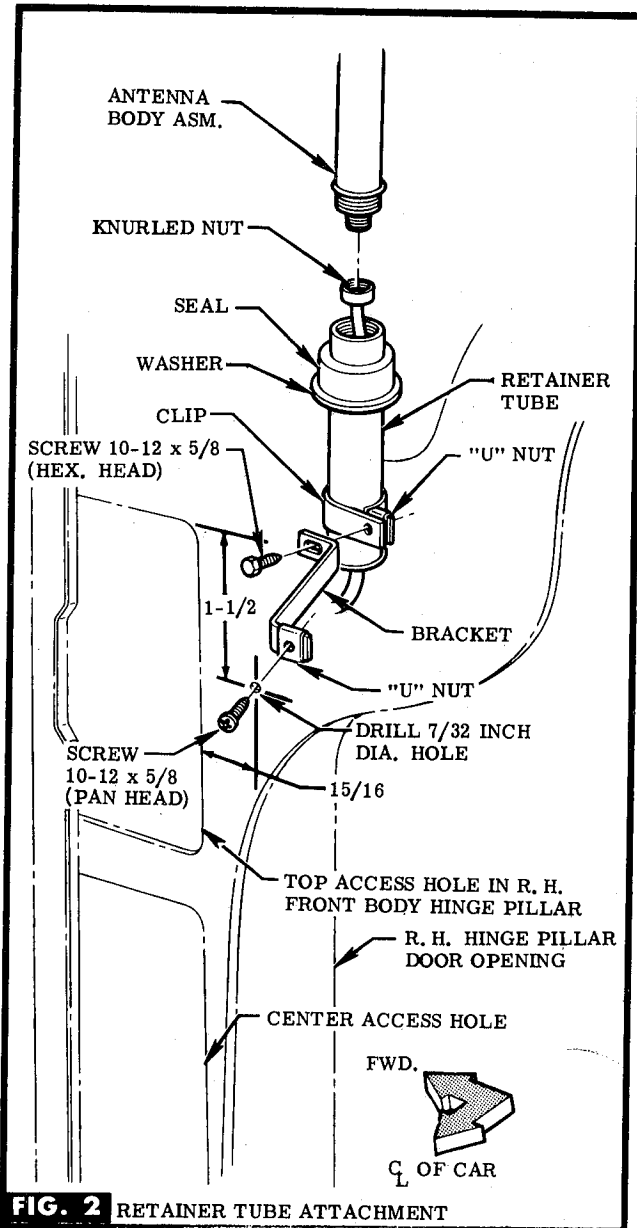

FIG. 2 RETAINER TUBE ATTACHMENT
STEP 3 LOCATE & DRILL HOLE IN HINGE PILLAR. SEE FIG. 2.
TENNA BODY ASM. SEE FIG. 2.
STEP 8 SUB-ASSEMBLE CLIP, BRACKET & "U" NUT TO RETAINER TUBE WITH SCREW. POSITION REMAINING "U" NUT OVER OTHER END OF BRACKET & POSITION BRACKET AGAINST HOLE DRILLED IN HINGE PILLAR. ATTACH WITH PROVIDED SCREW. TIGHTEN BOTH SCREWS SECURELY. SEE FIG. 2.